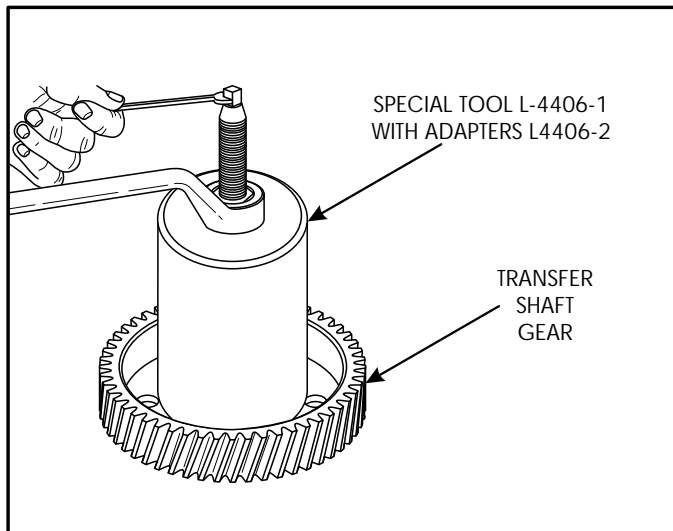

Figure 191
7. Remove bearing cone from transfer shaft gear using the special tools shown in Figure 191.